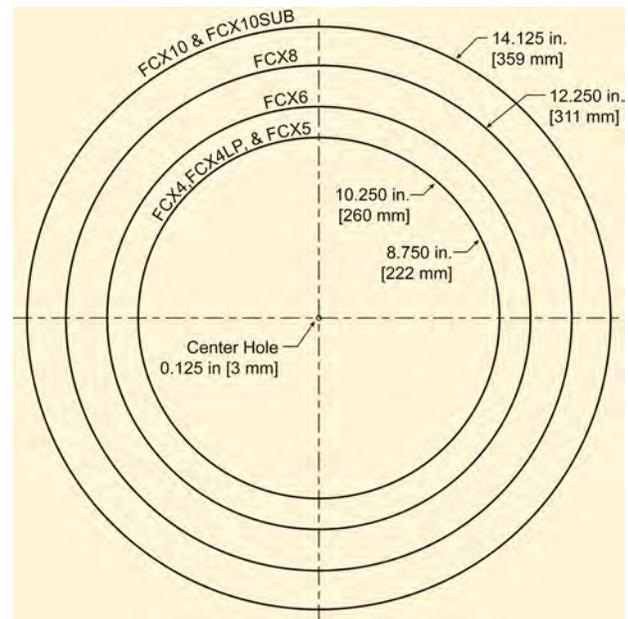

Figure 24. Cutout template dimensions
1. Mark the hole location on the ceiling tiles and, using the cutout template provided with your Distributed Design Series loudspeakers, cut a hole to the precise size. See Figure 24.